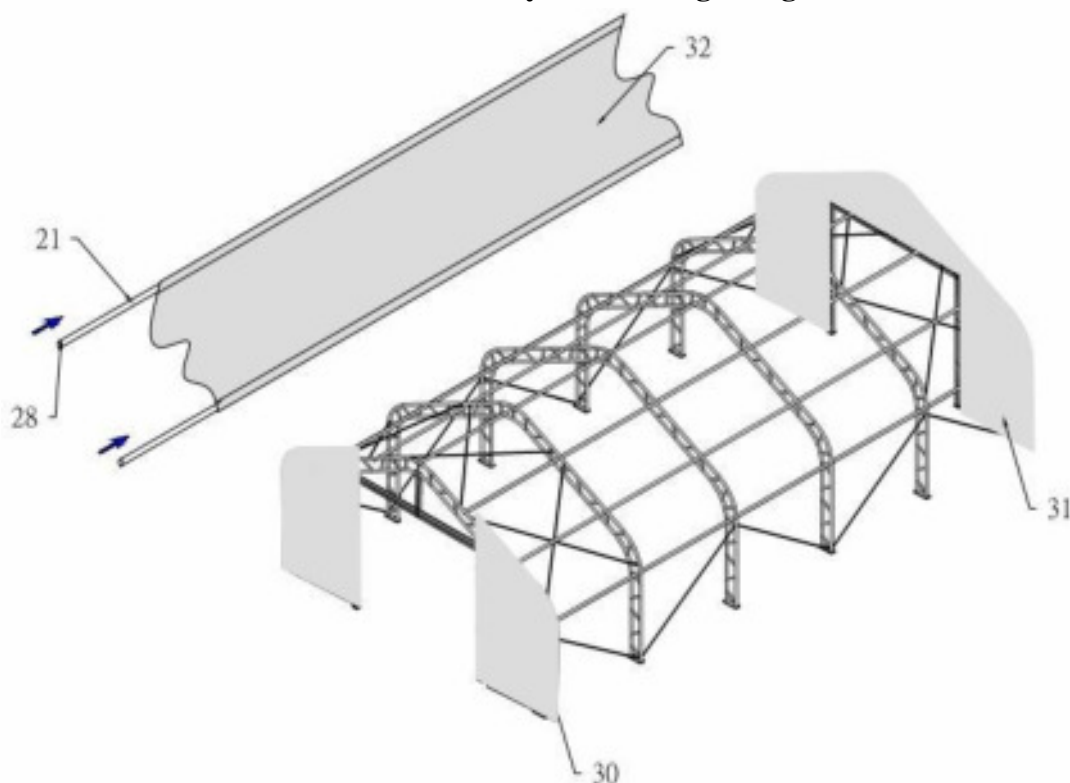

Figure 11
1. When Roof cover is over top of Frame assembly (see Figure 11, insert the tensioning tubes (No.21) into pockets along both sides of Roof cover, cut opening for Nylon band for ratchet, find the Nylon band over tube feed end into tie down to ratchet (No.6).